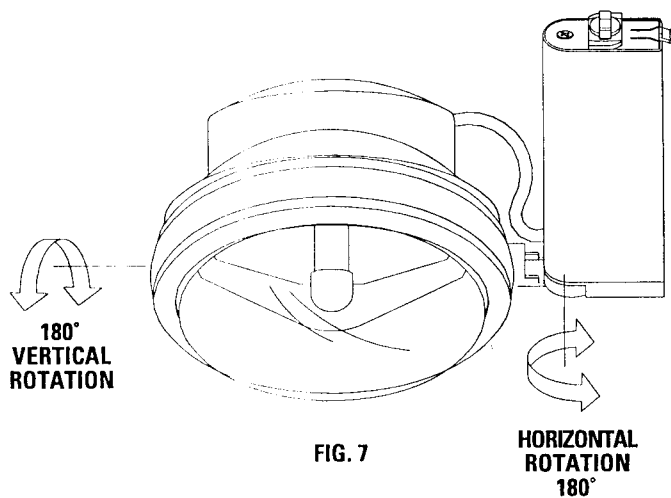

FIG. 7
4. To aim fixture, rotate as shown (Fig. 7).